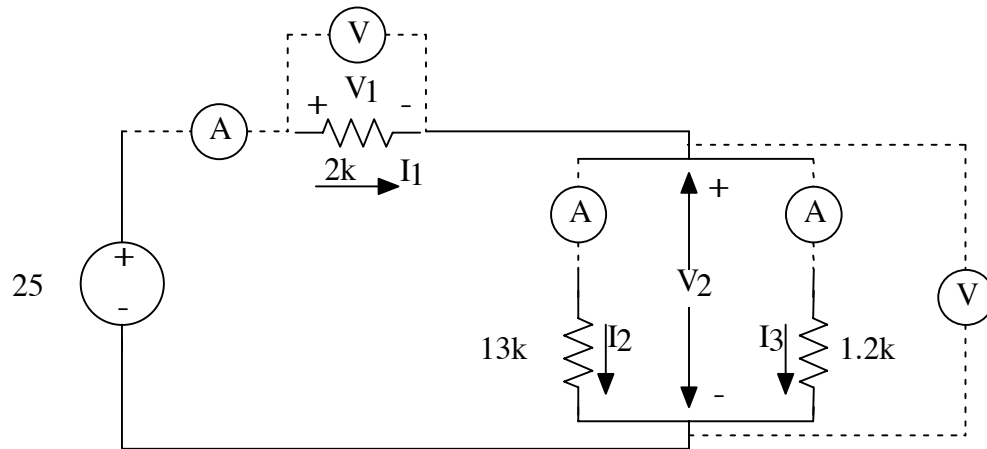

Figure 11. Current divider circuit.
- 1) Build the circuit shown in Figure 11. Start by inserting the resistors into the breadboard so that they are connected in the series/parallel combination shown. Before connecting the power supply, make sure that the output is 25V using the DMM. Turn the output off and connect the DMM in series with the resistor circuit (Figure 11) to measure the total current, I_1 .
- 4) Connect the resistor circuit directly to the power supply. Use the DMM to measure the input voltage to the circuit. Then use the DMM to measure the two voltages V_1 and V_2 shown in Figure 11, i.e., across the $2k\Omega$ resistor and across the parallel combination of the $13k\Omega$ and $1.2k\Omega$. Record your results in Data Table 5: Current Divider Circuit